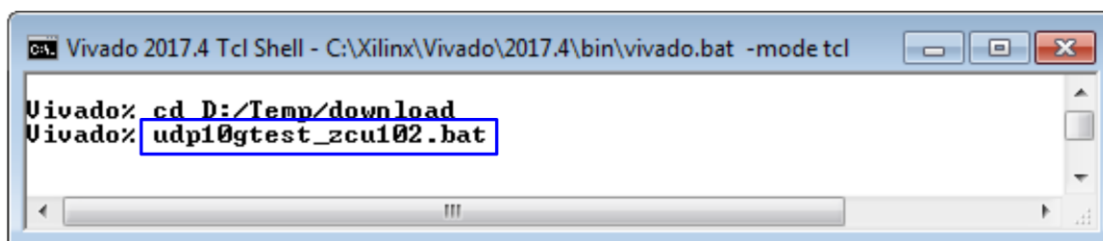

Figure 2-14 Example command script for download to ZCU102/ZCU106/ZC706 by Vivado tool
- a) For ZCU102/ZCU106/ZC706/ZCU111 boards, open the Vivado TCL shell and change the current directory to the download folder that includes the demo configuration file. Type “XXX10gtest\_boardname.bat”, as shown in Figure 2-14.